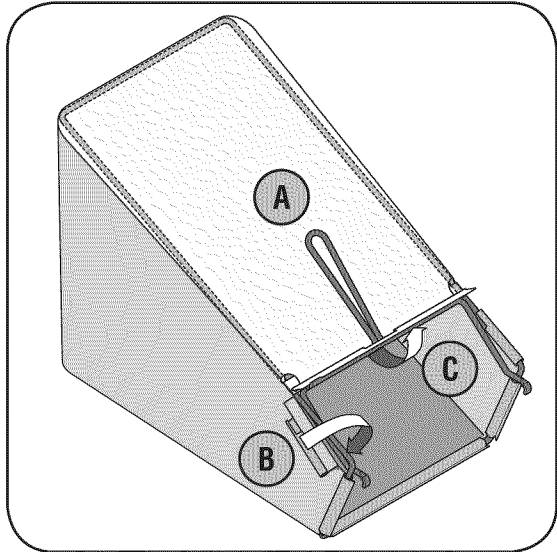

Figure 3-5: Assemble the grass catcher (if needed).
6. Follow the steps below, if needed, to assemble the grass catcher, Figure 3-5.